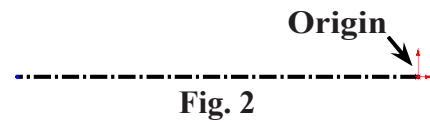

Fig. 2
Step 4. Sketch centerline from Origin  out to left, **Fig. 2**.
Step 4. Click **Centerpoint Arc Slot**  (S) in the **Straight Slot flyout**  on the Sketch toolbar.